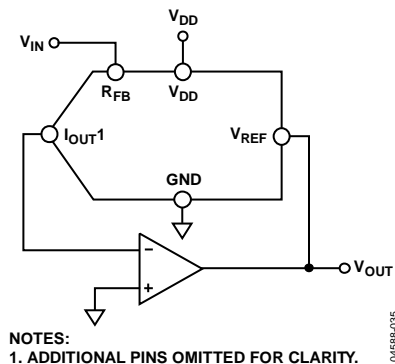

Figure 42. Current-Steering DAC Used as a Divider or Programmable Gain Element
Current-steering DACs are very flexible and lend themselves to many different applications. If this type of DAC is connected as the feedback element of an op amp and R_{FB} is used as the input resistor, as shown in Figure 42, then the output voltage is inversely proportional to the digital input fraction, D .
As D is reduced, the output voltage increases. For small values of the digital fraction (D), it is important to ensure that the amplifier does not saturate and the required accuracy is met. For example, an 8-bit DAC driven with the binary code 0x10 (0001 0000), that is, 16 decimal, in the circuit of Figure 42, should cause the output voltage to be $16 \times V_{IN}$. However, if the DAC has a linearity specification of ± 0.5 LSB, then D can, in fact, have a weight in the range of $15.5/256$ to $16.5/256$, so the possible output voltage is in the range $15.5 V_{IN}$ to $16.5 V_{IN}$. This is an error of 3%, even though the DAC itself has a maximum error of 0.2%.